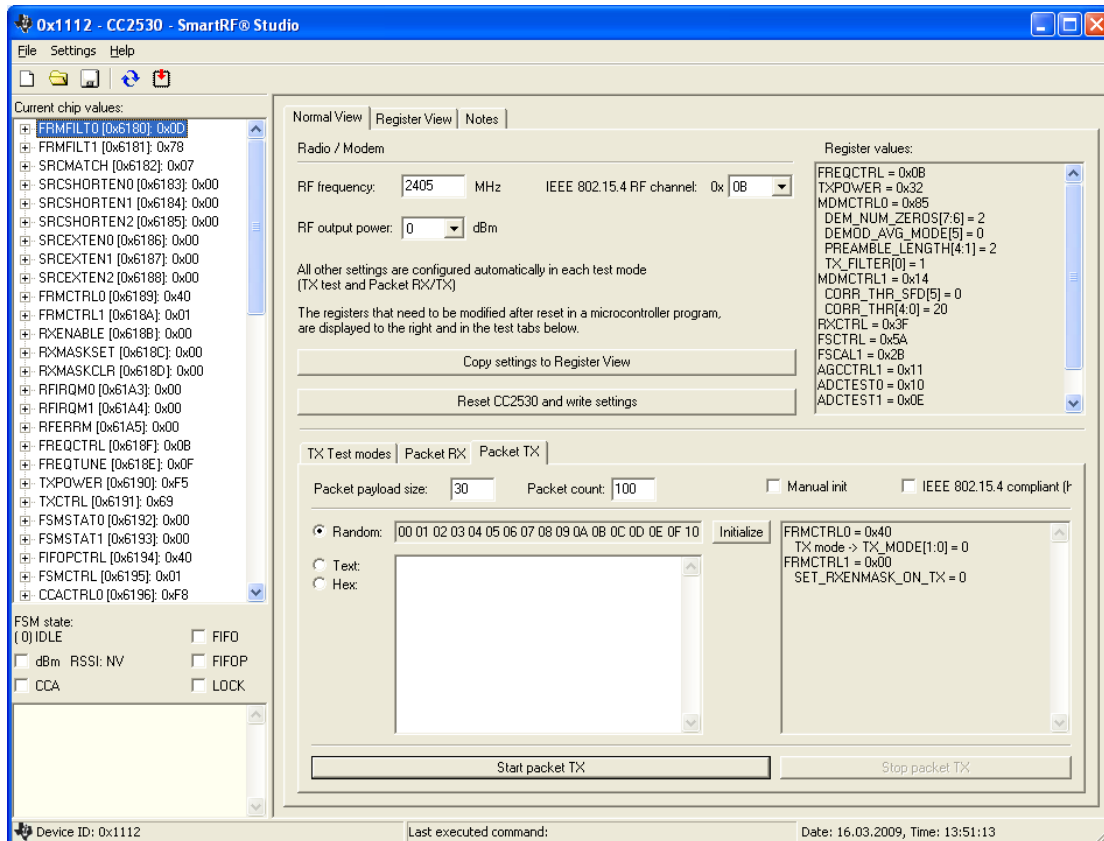

Figure 3 - CC2530 control panel in SmartRF Studio
Figure 3 shows the main control panel for the CC2530. It lets you perform a number of operations:
- Select one device to be the transmitter, by selecting the “Packet TX” tab shown in the lower middle of Figure 3.